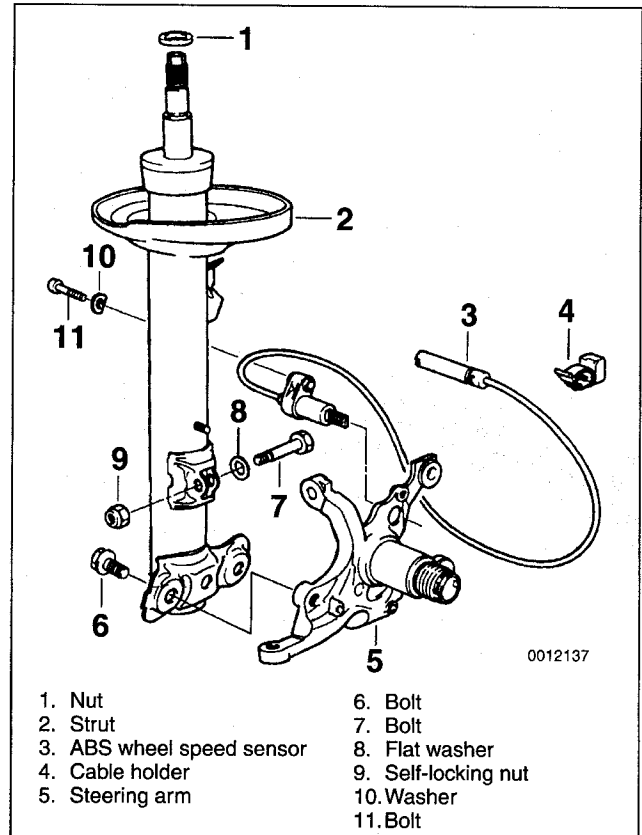

Fig. 4. Strut and steering arm assembly.
6. Unbolt splash shield and steering arm from strut. Suspend steering arm assembly from chassis using stiff wire. See Fig. 4.